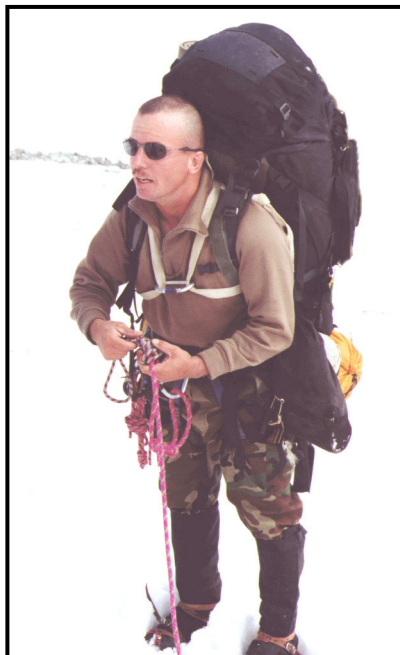

Figure 10-25. Preparation for roped movement.
(2) When conditions warrant, three to four people will tie in to one rope at equal distances from each other. To locate the positions, if three people are on a team, double the rope and one ties into the middle and the other two at the ends. If four people are on a team, form a “z” with the rope and expand the “z” fully, keeping the end and the bight on each “side” of the “z” even. Tie in to the bights and the ends.
(3) Connect to the rope with the appropriate method and attach the Prusik as required. The rope should be kept relatively tight either by Prusik belay or positioning of each person. If the team members need to assemble in one area, use the Prusik to belay each other in.
(4) If a team member falls into a crevasse, the remaining members go into team arrest, assess the situation, and use the necessary technique to remove the person from the crevasse. The simplest and most common method for getting someone out of a crevasse is for the person to climb out while being belayed.
(5) All items should be secured to either the climber or the rope/harness to prevent inadvertent release and loss of necessary items or equipment. Packs should be secured to the rope/harness with webbing or rope. If traveling with a sled in tow, secure it not only to a climber to pull it, but connect it to the rope with webbing or rope also.
(6) If marking the route on the glacier is necessary for backtracking or to prevent disorientation in storms or flat-light conditions, use markers that will be noticeable against the white conditions. The first team member can place a new marker when the last team member reaches the previous marker.
c. **Roped Movement.** The first rule for movement on glaciers is to rope up (Figure 10-25). A roped team of two, while ideal for rock climbing, is at a disadvantage on a snow-covered glacier. The best combination is a three-man rope team. Generally, the rope team members will move at the same time with the rope fully extended and reasonably tight between individuals, their security being the team arrest. If an individual should break through a snow bridge and fall into a crevasse, the other members immediately perform self-arrest, halting the fall. At points of obvious weakness in the snow bridges, the members may decide to belay each other across the crevasse using one of the established belay techniques.